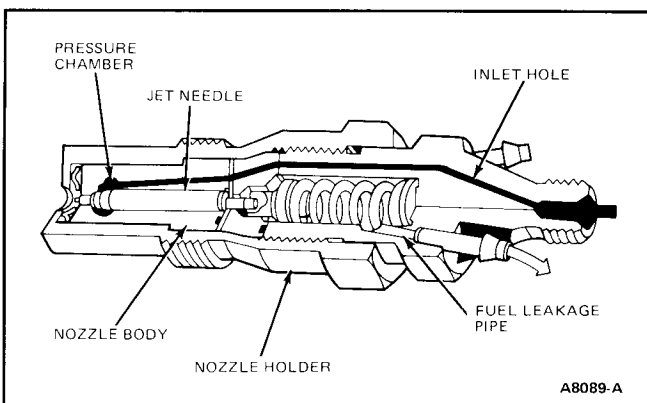
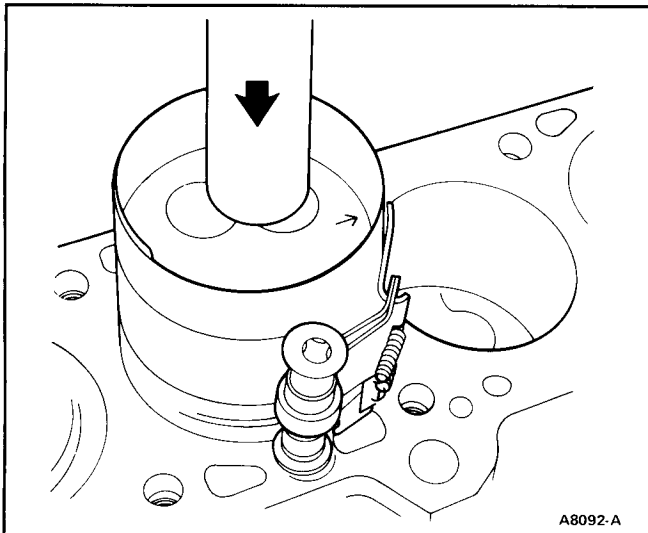
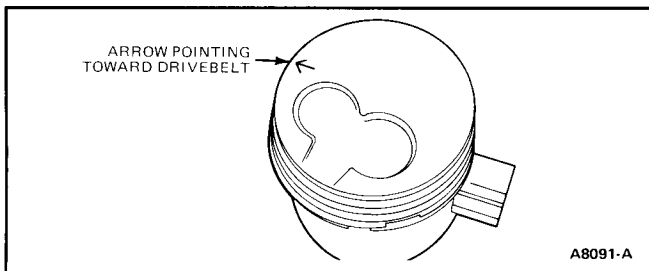

FIG. 57 Injection Nozzle—Cutaway View
FIG. 60 Fitting Pistons
FIG. 61 Arrow on Piston Head
5. Install connecting rod upper bearing, and install Connecting Rod Guide Sleeves Tool D84P-6136-A or equivalent (Fig. 57). Install piston ring compressor Tool D81L-6002-C or equivalent on piston and push piston in with a hammer handle until it is slightly below top of cylinder (Fig. 60). Guide connecting rods to avoid damaging cooling jets and crankshaft journals. **Install piston with arrow on pistonhead toward drivebelt (Fig. 61).**
13. Pry crankshaft forward against thrust surface of upper half of bearing (Fig. 60).